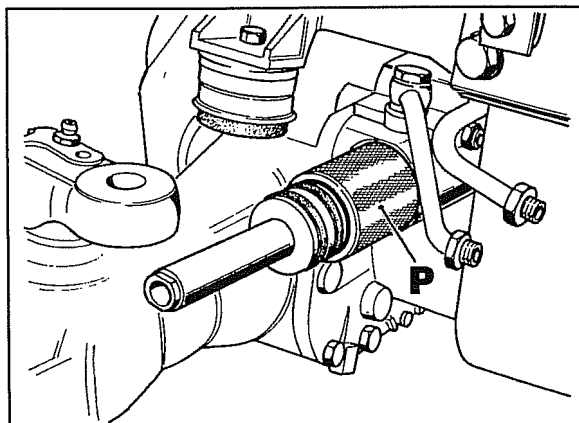

Fig. 74
- Use the special punch **P** Fig. 74 to install the piston in the cylinder. Its internal seating is tapered to facilitate the insertion of the seal rings in the cylinder without damaging them.